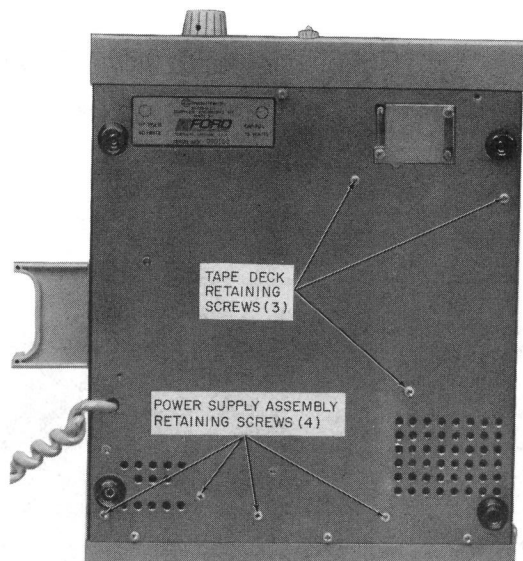

Fig. 5—List 13 (MD) Answering Set, Bottom View
- (d) Lay the set on its right side and remove the three retaining screws for the tape deck [List 13 (MD), Fig. 5; List 24 (MD) or 26, Fig. 6].
- (b) Lay the set on its left side and remove the four retaining screws from the power supply assembly (Fig. 5).
- (4) Insert new power supply assembly.
- (b) Lay the set on its left side and install the four retaining screws (Fig. 5).
- (d) Lay the set on its right side and install the three retaining screws (Fig. 5).